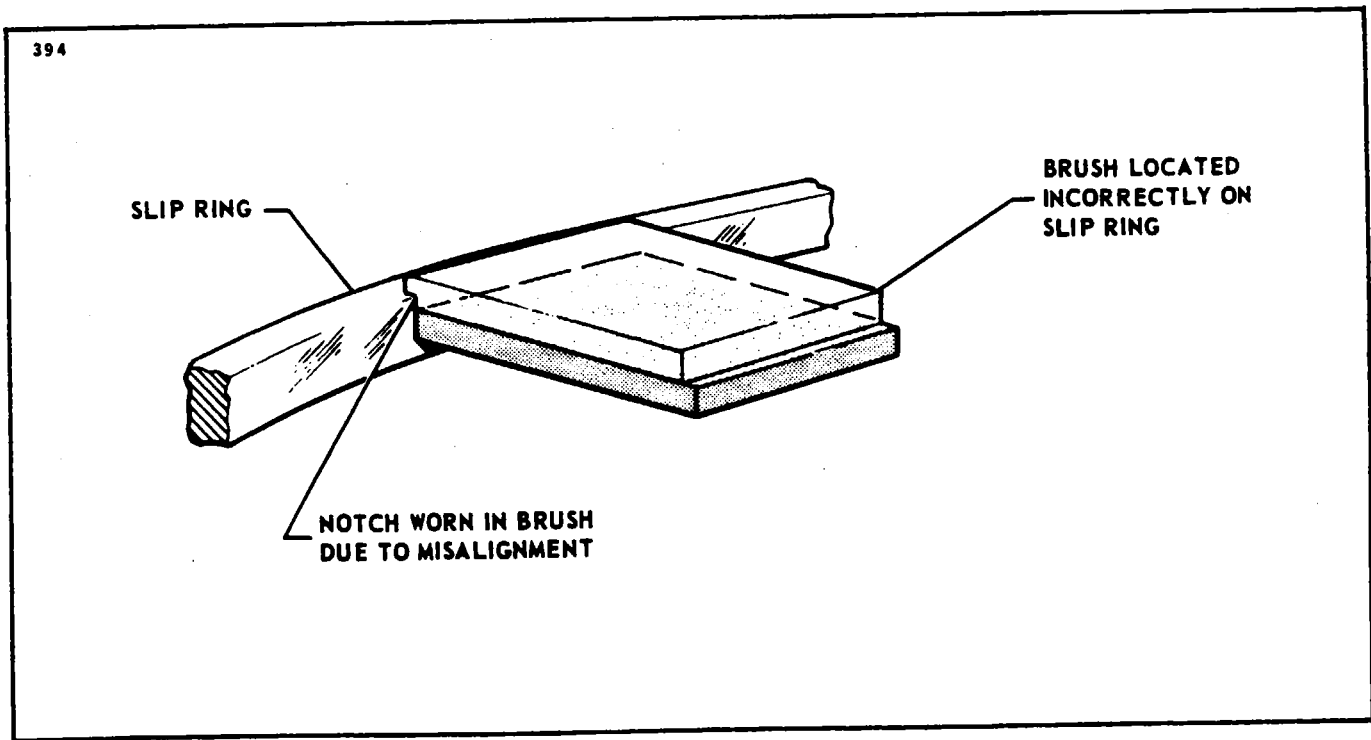

Figure 14-8. Centering of Brushes on Slip Rings
1. Test that each brush rides fully on its slip ring over 360°. Figure 14-8 shows wear pattern if this condition is not corrected. If alignment is off, shim where brush block attaches to bracket. The shim is a series of laminates and may be peeled for proper alignment of brushes to slip rings. A new shim may be necessary.